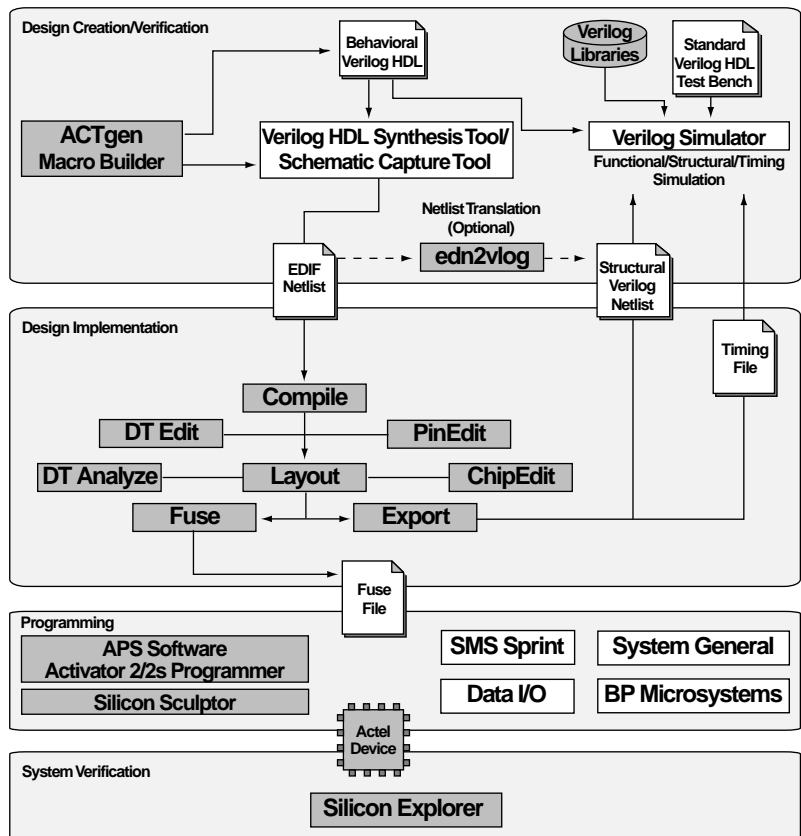

Figure 2-1. Actel-Verilog Design Flow
Figure 2-1 shows the design flow for an Actel device using CAE software, a Verilog simulation tool, and the Designer Series software¹.
1. Actel-specific utilities/tools are denoted by the grey boxes in Figure 2-1.